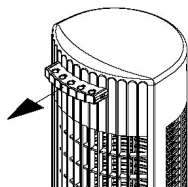

Fig. 2
- Half of the remote control will be ejected (Fig. 2).